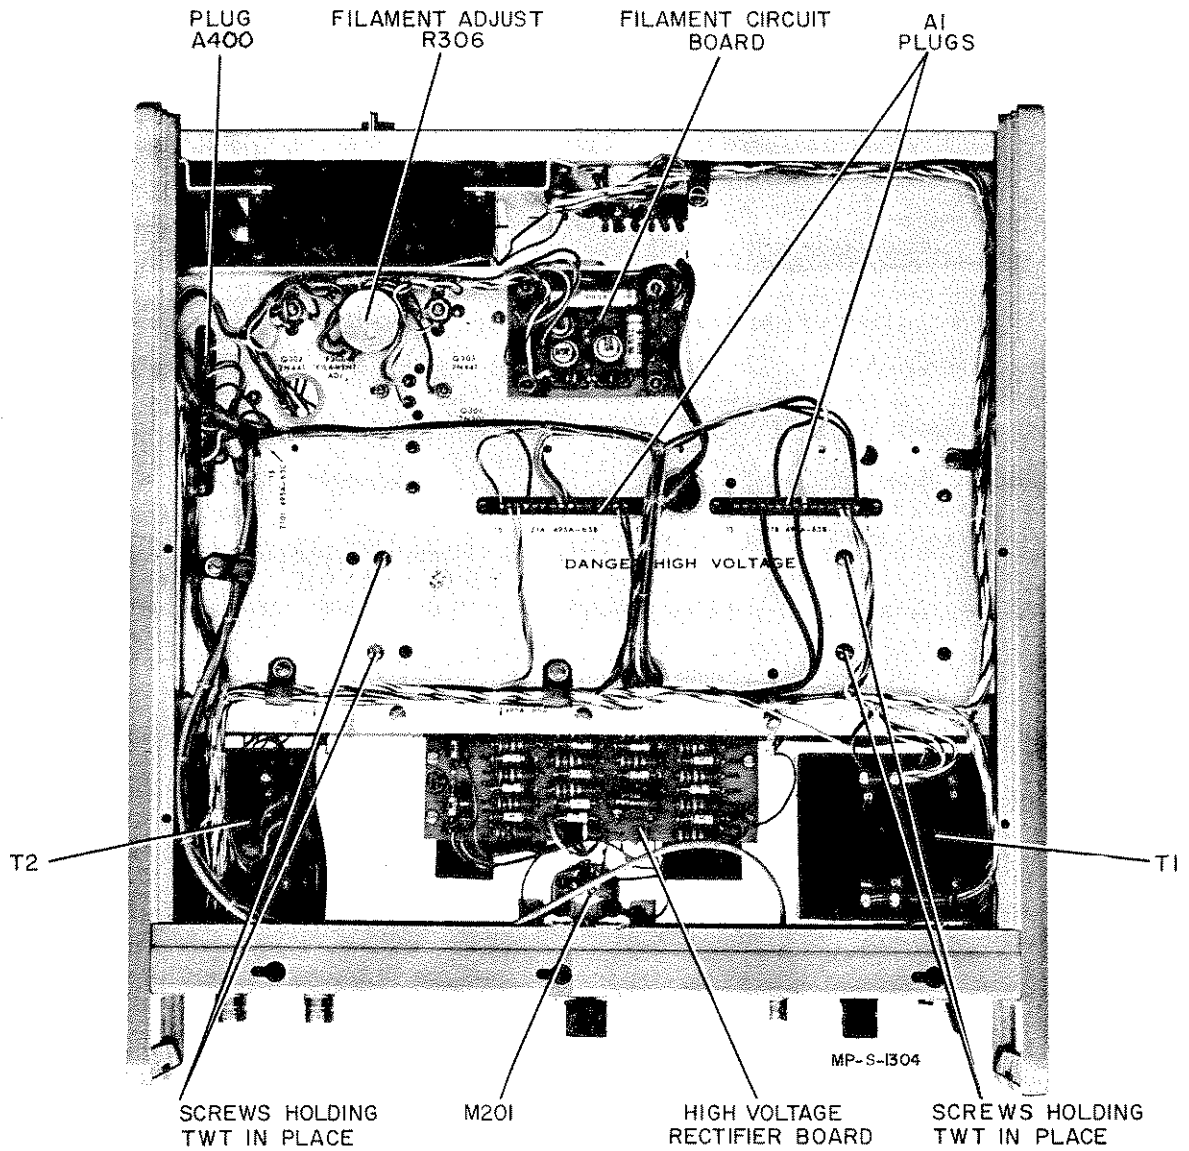

Figure 5-4.  Model 493A Bottom View
- h. Place instrument on its side and remove four screws holding twt to main deck (see Figure 5-4).